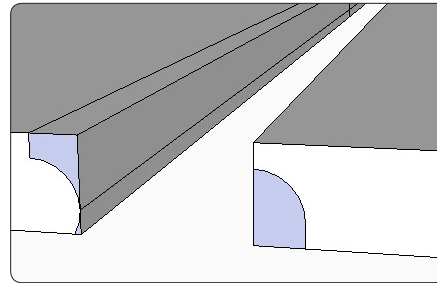

Figure 42. Use the Push/Pull Tool to push the roundover and cove shapes beyond the front edge of the top and leaf.
Step 4 Select the Push/Pull Tool and press the Ctrl key (Option on the Mac). Push out the roundover shapes beyond the front edges of the top and leaf, as shown in Figure 42.